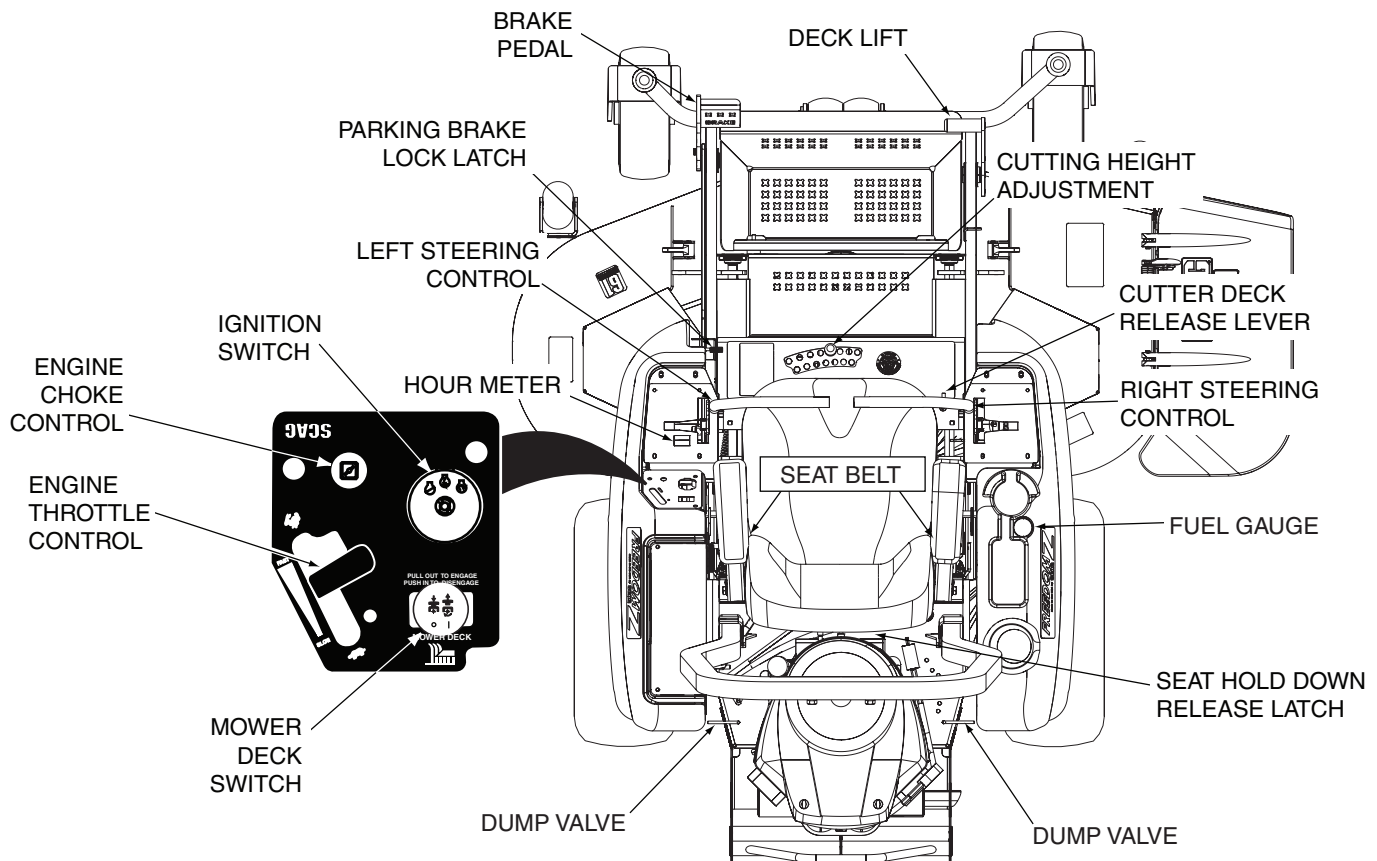
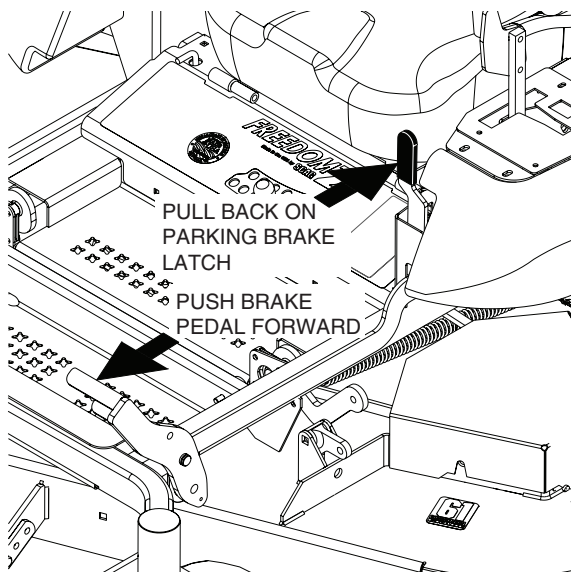
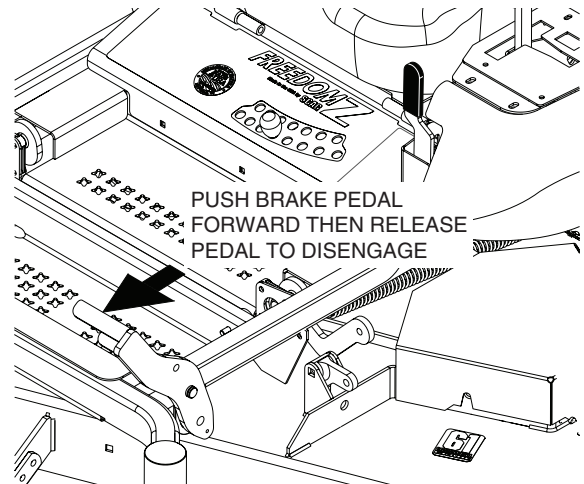

Figure 4-1. Controls and Instruments
Figure 4-2. Engaging the Parking Brake
Figure 4-3. Releasing the Parking Brake
1. **Ignition Switch (Figure 4-1).** The ignition switch is used to start the engine and has three positions; OFF, ON, and START.
2. **Mower Deck Switch (Figure 4-1).** Used to engage and disengage the mower drive system. Pulling up on the switch will engage the deck drive. Pushing down on the switch will disengage the deck drive.
3. **Engine Choke Control (Figure 4-1).** Used to start a cold engine.
4. **Engine Throttle Control (Figure 4-1).** Used to control the engine speed. Pushing the lever forward increases engine speed. Pulling the lever back decreases engine speed. Full back position is the IDLE position. Full forward is the cutting position.
5. **Fuel Gauge (Figure 4-1).** Indicates the amount of fuel in the fuel tank.
6. **Hourmeter (Figure 4-1).** Indicates the number of hours the engine has been operated. It operates whenever the engine is running. Has preset maintenance reminders for engine and hydraulic system oil changes. Will start flashing scheduled maintenance 2 hours before preset time and continue flashing until 2 hours after. Automatically resets.
7. **Fuse Holders (Figure 4-1).** Two 20-amp fuses protect the mower's electrical system. To replace fuses, pull fuse out of the socket and install a new fuse.
8. **Left Steering Control (Figure 4-1).** Used to control the mower's left wheel when traveling forward or reverse.
9. **Right Steering Control (Figure 4-1).** Used to control the mower's right wheel when traveling forward or reverse.
10. **Brake Pedal (Figure 4-1).** Depressing the brake pedal applies the brake.
11. **Parking Brake Lock Latch (Figure 4-1).** Used to lock the parking brake in the engaged position. Fully depress the brake pedal and pull the parking brake lock latch back to lock the parking brake in the engaged position. See Figure 4-2. Fully depress the brake pedal forward to disengage the parking brake lock latch, then release the brake pedal to disengage the brake. See Figure 4-3.
13. **Deck Lift Foot Lever (Figure 4-1).** Used to raise and lower the cutter deck.
14. **Cutting Height Adjustment (Figure 4-1).** Used to set the cutter deck at the desired cutting height.
15. **Deck Release Lever (Figure 4-1).** Used to lock the cutter deck in the transport position. Push the foot pedal forward and pull back on the release lever to release the cutter deck for normal mowing.
16. Seat Belt (Figure 4-1). Used to secure the operator. Seat belt must be worn at all times during operation.
17. Seat Hold Down Release Latch (Figure 4-1). Located behind the seat. Used to secure the seat in the operator's position. Release the latch to gain access under the seat.
Do not travel forward over a curb. The mower will hang up on the curb. Raise the deck and travel backwards over the curb at a 45 degree angle. (See Figure 4-1 item 12 for cutter deck raising description.)
To stop the reverse travel, allow the steering control levers to return to the neutral position. If the mower is to be parked, place the handles in the neutral lock position, fully depress the brake pedal and pull back on the parking brake lock latch to engage the parking brake. See Figure 4-2.
5. Fully depress the brake pedal and pull the parking brake lever back to engage the parking brake. See Figure 4-2.